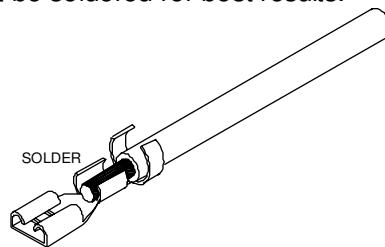

FIG 5
- Use the supplied 1,5mm² wire to make the connections. For best results, solder the female push-on connector (fig 5). Apply enough heat, in order to make a good solder joint.
Use the supplied female push-on connectors (fig 5) and solder them onto the wires !
- Position this assembly onto the enclosure, and put the silver button head hexagon socket screws in place. Tighten them by hand. Connect the chromed vertical plate to SK22 (chassis earth) with a length of yellow/green striped wire and 2 female push-on terminals. Make sure you solder both terminals. (See fig 5)